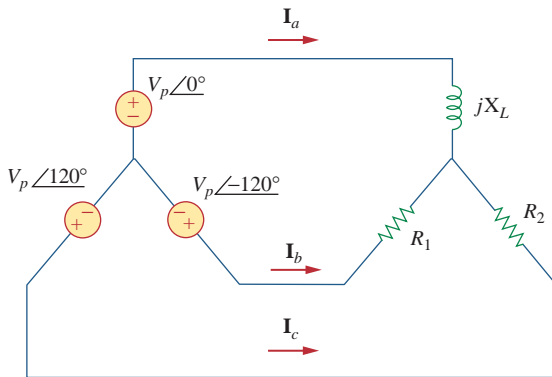

Figure 12.61
12.53 Using Fig. 12.61, design a problem that will help other students better understand unbalanced three-phase systems.